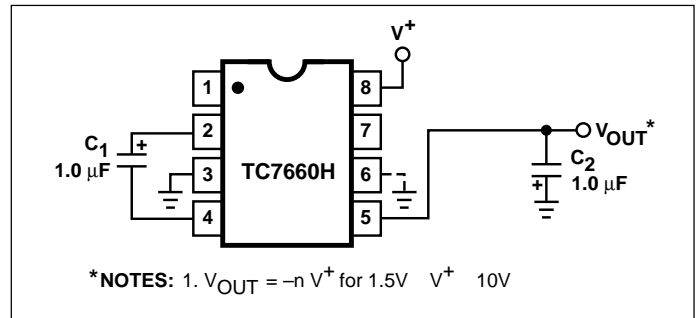
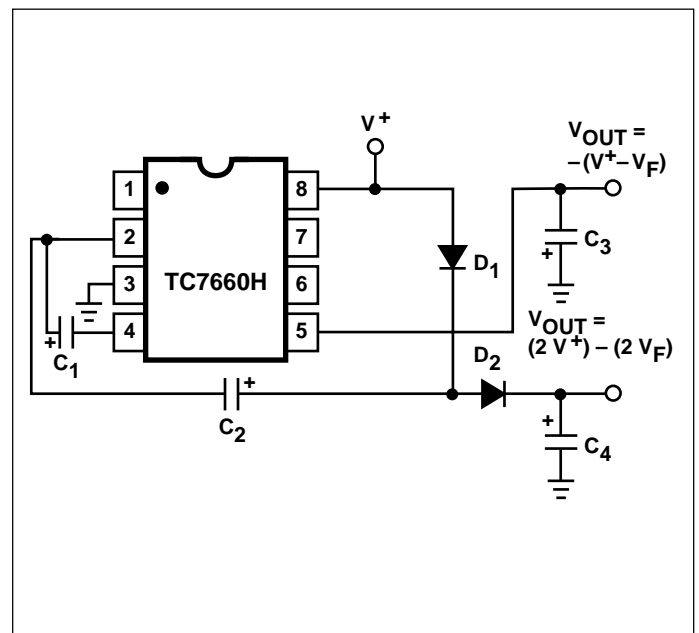

Figure 3. Simple Negative Converter
Figure 8. Combined Negative Converter and Positive Multiplier
Figure 3 shows typical connections to provide a negative supply where a positive supply is available. A similar scheme may be employed for supply voltages anywhere in the operating range of +1.5V to +10V, keeping in mind that pin 6 (LV) is tied to the supply negative (GND) only for supply voltages below 3.5V.
The output characteristics of the circuit in Figure 3 are those of a nearly ideal voltage source in series with 70Ω. Thus, for a load current of -10 mA and a supply voltage of +5V, the output voltage would be -4.3V.
Figure 8 combines the functions shown in Figures 3 and 8 to provide negative voltage conversion and positive voltage multiplication simultaneously. This approach would be, for example, suitable for generating +9V and -5V from an existing +5V supply. In this instance, capacitors  $C_1$  and  $C_3$  perform the pump and reservoir functions, respectively, for the generation of the negative voltage, while capacitors  $C_2$  and  $C_4$  are pump and reservoir, respectively, for the multiplied positive voltage. There is a penalty in this configuration which combines both functions, however, in that the source impedances of the generated supplies will be somewhat higher due to the finite impedance of the common charge pump driver at pin 2 of the device.